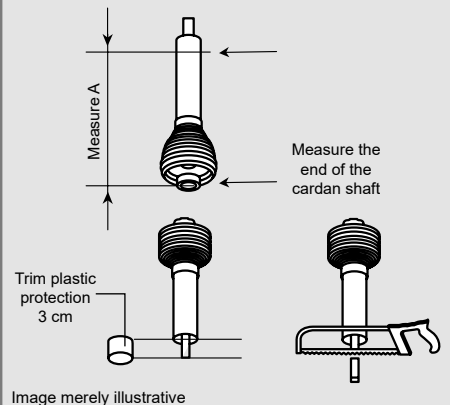

Figure 2
- The measurement between the PTO shafts shall be divided by 1.3. The value of this division will indicate measurement A. Mark the cardan shaft with measurement A and cut off the leftover as shown in Figure 2.
- After completing the full cut, mark the plastic shield of the male and female cardan and remove 1.2 in (3 cm) from the plastic shield only, cutting with a saw, and leaving the cardan shaft with the exposed tip as shown in Figure 2.